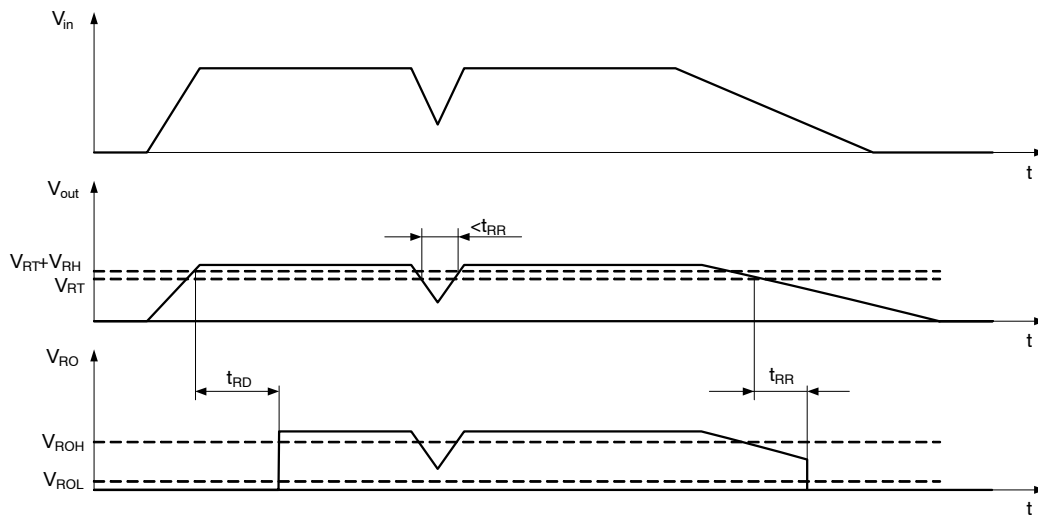

Figure 24. Reset Function and Timing Diagram
A reset signal is provided on the Reset Output (RO) pin to provide feedback to the microprocessor of an out of regulation condition. The timing diagram of reset function is shown in Figure 24. This is in the form of a logic signal on RO. Output voltage conditions below the RESET threshold cause RO to go low. The RO integrity is maintained down to $V_{out} = 1.0$ V. The Reset Output (RO) circuitry includes internal pull-up connected to the output (V_{out}) No external pull-up is necessary.